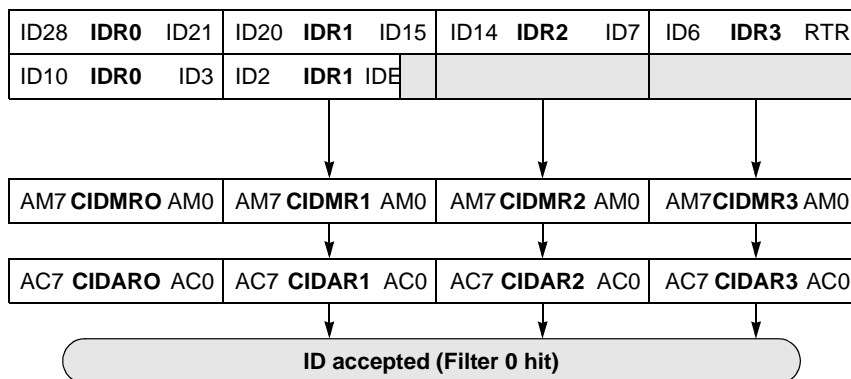

Figure 17-3. 32-bit Maskable Identifier Acceptance Filters
- b) the 11 bits of the standard identifier, the RTR and IDE bits of CAN 2.0A/B messages.This mode implements two filters for a full length CAN 2.0B compliant extended identifier. Figure 17-3 shows how the first 32-bit filter bank (CIDAR0–3, CIDMR0–3) produces a filter 0 hit. Similarly, the second filter bank (CIDAR4–7, CIDMR4–7) produces a filter 1 hit.